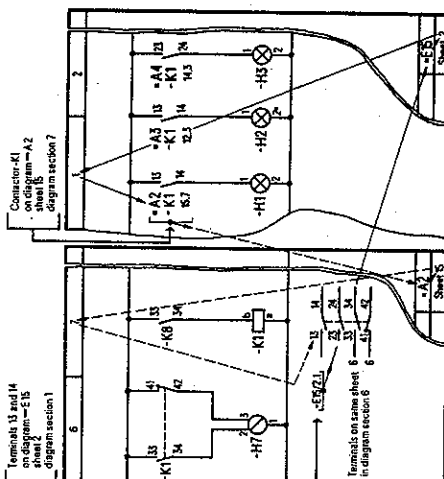

Fig. 25 Partial representations of an item of equipment in different diagrams
In the case of contactor or relay contacts, reference is made to the representation of the coil if this is not shown on the same sheet (Fig. 25), and with partial representations of other items of equipment to their complete representation.
**Explanations to Fig. 25:**